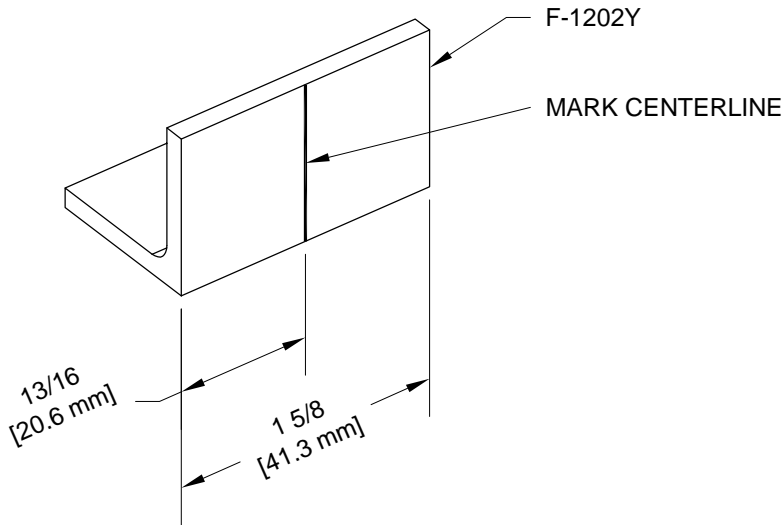

FIGURE 1: MAKING THE STRUT ATTACH ANGLE
Step 1: Cut two pieces of AA6-125X1X1 angle and mark as shown in Figure 1.